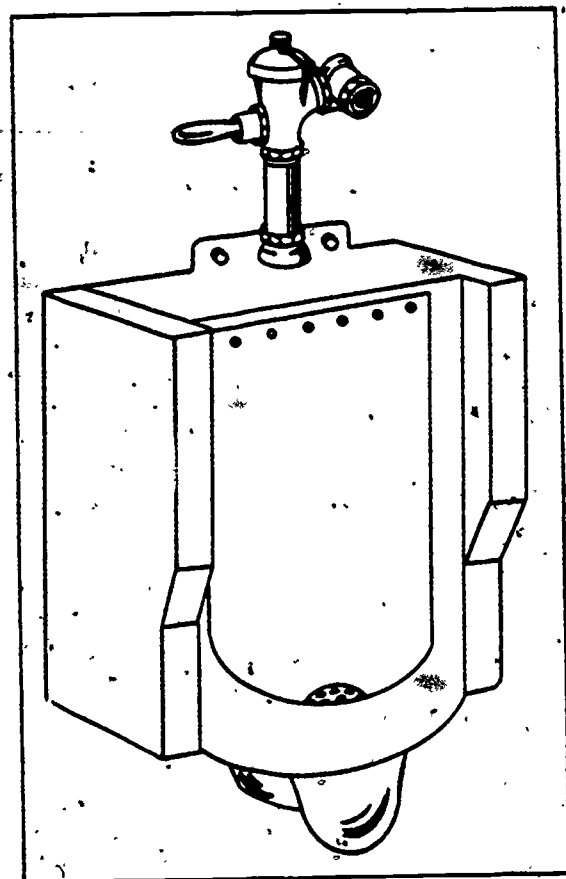

Figure 2-39. Wall-hung urinal.
**Types of urinals.** There are several types of urinals in use. The urinals most extensively used on military installations are the wall-hung and pedestal types. A wall-hung urinal is illustrated in figure 2-39.